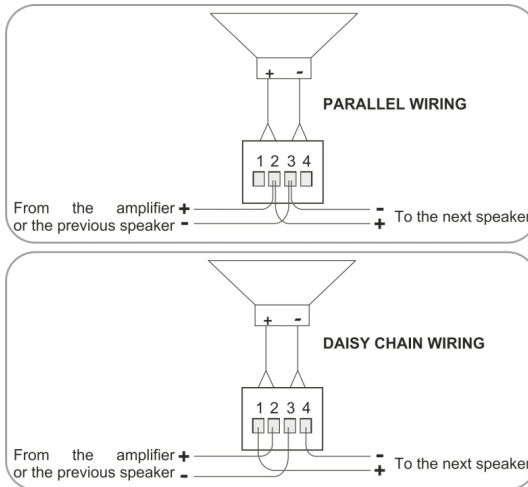

Figure 3: Closed-back Ceiling Speaker Schematic Diagram
Figure 3 shows a schematic diagram of the Closed-back Ceiling speaker:
- **Wiring in parallel:** connect the wire pair of the subsequent speaker to PIN 2 and PIN 3. When one input connector is removed, subsequent speakers will remain connected (see Figure 3)
- **Daisy-chaining:** connect the wire pair of the subsequent speaker to PIN 1 and PIN 4. When one input connector is removed, subsequent speakers will be disconnected (see Figure 3)